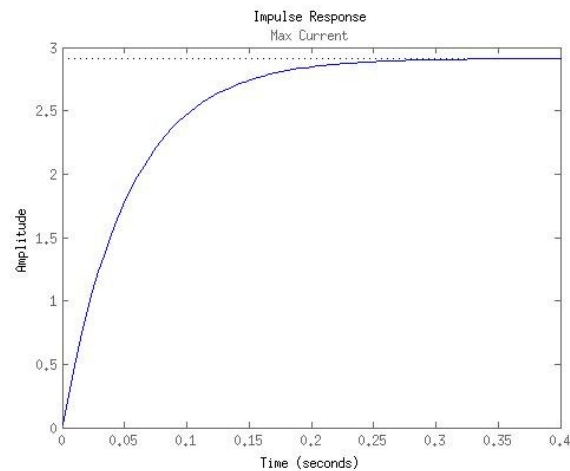
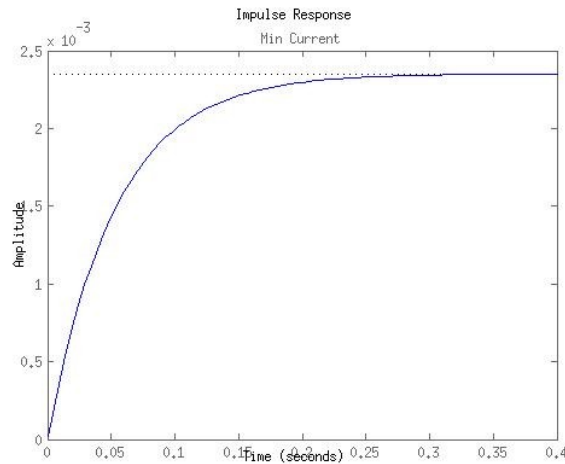

Figure 1
Figure 2
- **Deliverable 1:** Begin creating a Simulink model of the control system. See Equation (1) and (2) for the state-space equations for the ball bearing. Two equations are used (x-axis and y-axis). I did this in order to be able to use a direct measurement (position) as a feedback state. I would like to use FULL state feedback and determine the velocity feedback state by computing the velocity from previous position change information. I could also use an estimator for that state variable. I will also compare to MPC and PID. Request your opinion on these ideas.
- I generated Figure 1 and Figure 2. These figures show the impulse response (**position of ball in x-axis only**) for the minimum current (1.33 A – Figure 1) and maximum current (17 A – Figure 2). As you can see from these graphs, the system behavior is similar enough that I can argue the feedback gains are valid for the entire range of operation. According to the model, it takes about **1.33A** to make a **10 gram** ball bearing move on a metal surface with a friction coefficient of about **0.47**.